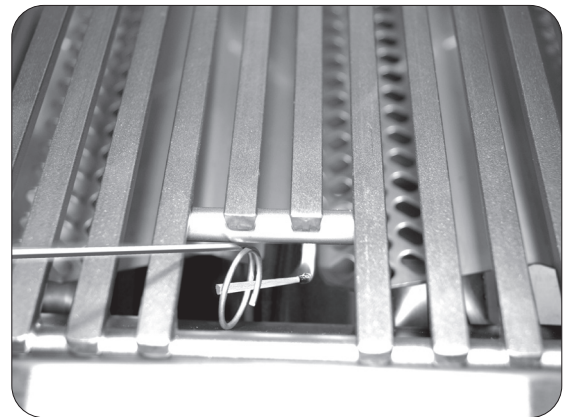

Fig. 31-2 - Manual lighting
2. Insert either a burning long-barrel butane lighter, a burning long-stem match, or a burning match held by a wire extension holder through the cooking grid opening to the top of the burner (Fig. 31-2).
4. If the burner does not light within five (5) seconds of turning the control knob, **immediately depress the knob and turn the valve to OFF**. WAIT FIVE (5) MINUTES before repeating steps 2 through 4 of the MANUAL LIGHTING instructions.